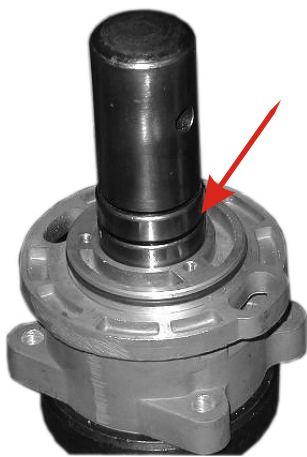

Fig. 109.
- Press bearings and distance ring into the alternator using the mandrel (Fig. 109)